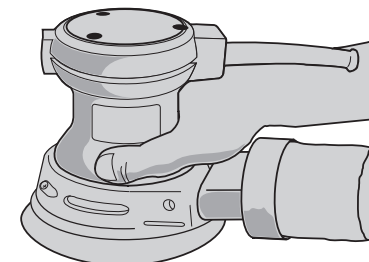

FIG. 7
- e. Snap in new disc, aligning notch in disc with cut out in shroud shown in figure 7.